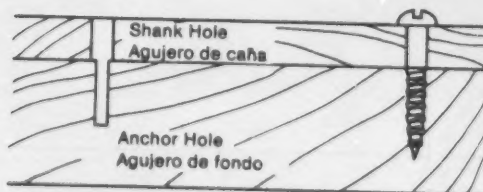

Figure 11-13 The anchor hole and shank hole
3. Drill a shank hole the same size as the shank of the screw (Figure 11-13).